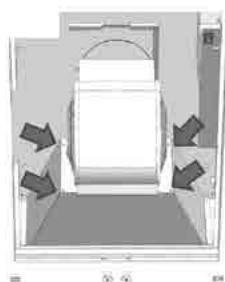

FIG.15
- › Remove the four screws that fix the motor, shown in Fig.15.